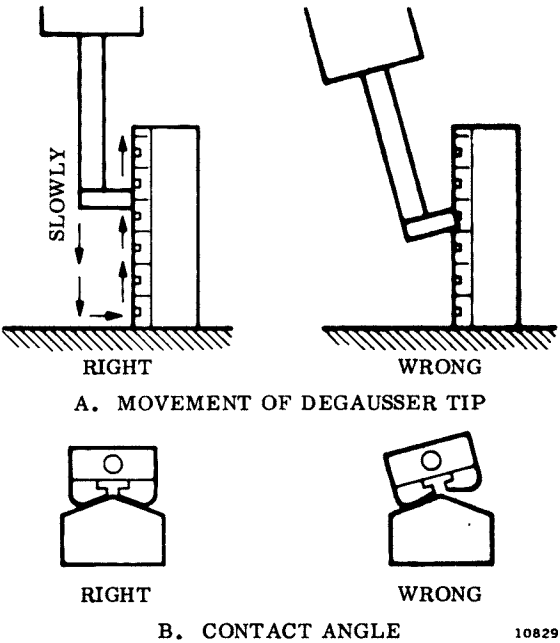

Figure 6-2. Head Degaussing
- d. Carefully place the degausser pole tips in light contact with the head. Keep the pole tips parallel to the head surface (see Figure 6-2 and move the degausser slowly and steadily all the way inward along the head center line (this should take approximately 15 seconds). Reverse the direction of the degausser movement and bring it slowly and steadily outward along the center line. Continue outward motion until the degausser is well away from the heads. Quick or jerky motions with the degausser will gauss the heads.
Refer to Figure 6-2. To clean the vacuum plenum chamber filter, proceed as follows: